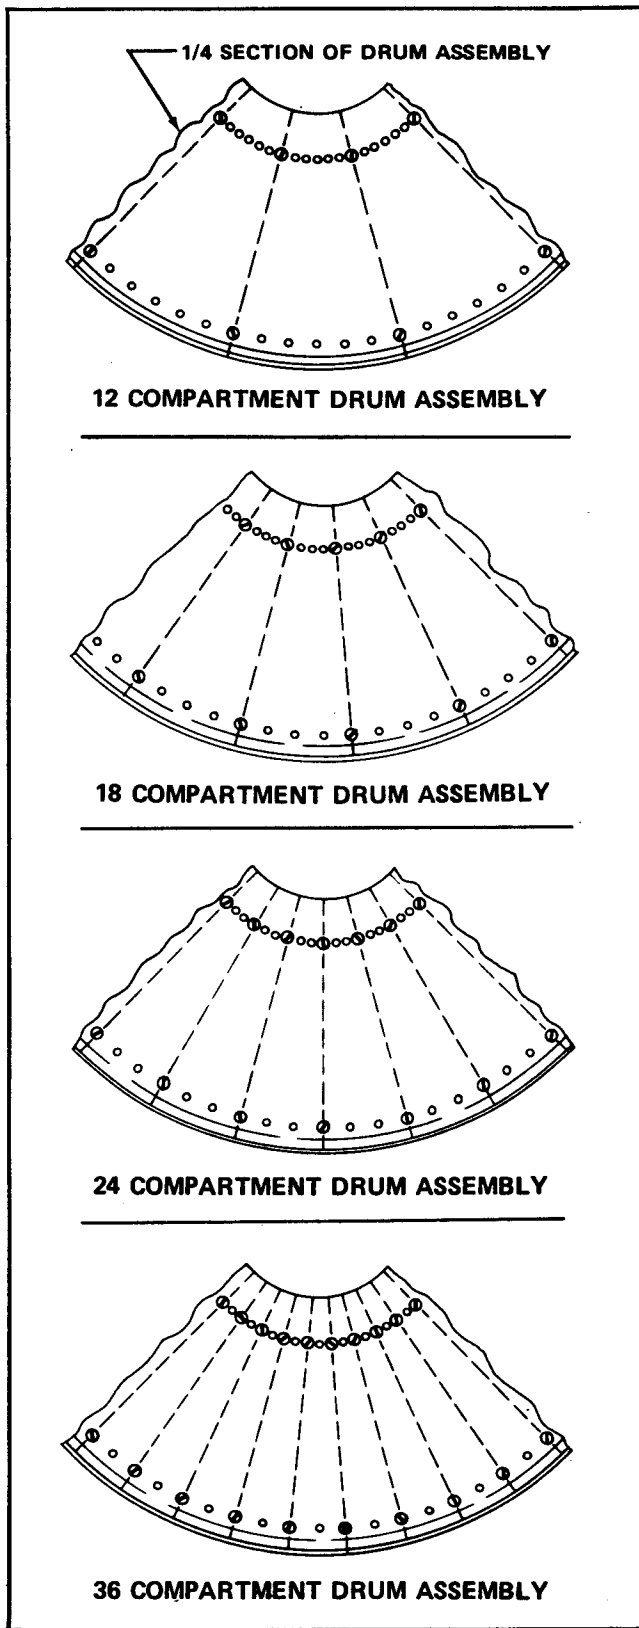

FIGURE 2
Each Drum Plate has two rows of 72 holes each. Twelve (12) Compartment Drum Assemblies have 5 unused holes between each Divider. Eighteen (18) Compartment Drums must have 3 unused holes between each Divider; twenty-four (24) Compartment Drums 2 unused holes between each Divider and; thirty-six (36) only one unused hole between each Divider. Figure 2 shows the various unused hole spacings referred to in these instructions.